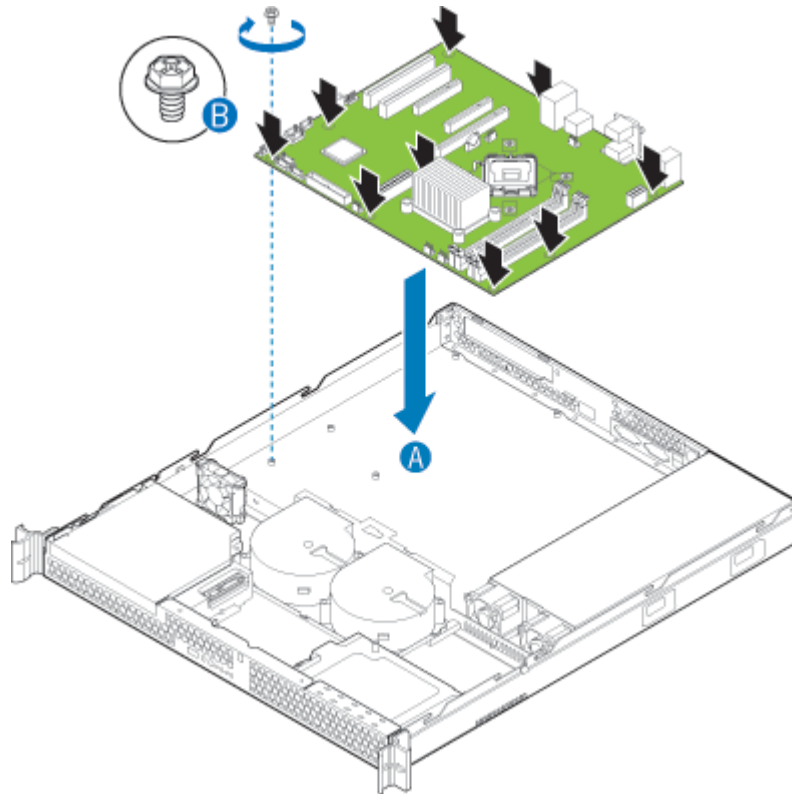

Figure 124: Installing the Server Board
10. Place the server board into the server as shown by letter “A” in Figure 124.